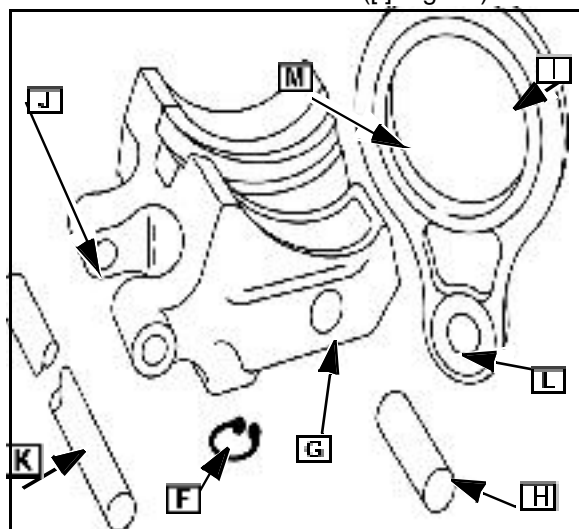

Fig. 13
5. Remove snap ring (F) from link pin bore (G), and push out link pin ([H] Fig. 13).
6. Remove connector link ([I] Fig. 13).
Inspect the following counterweight components for damage or wear. Replace parts as necessary. Refer to Fig. 13.